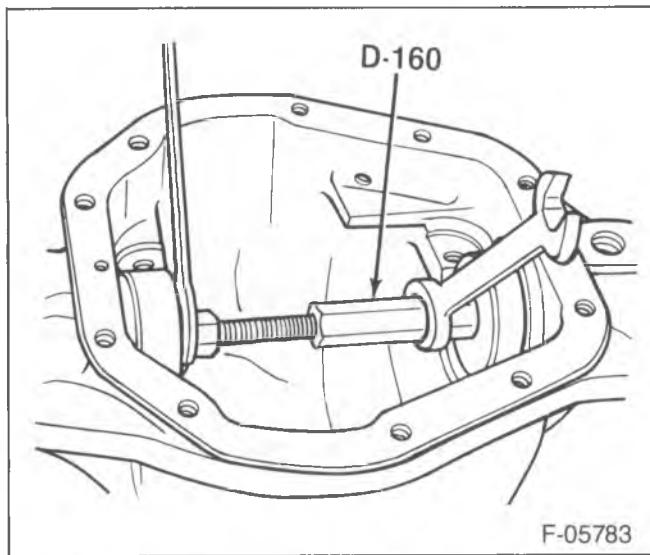
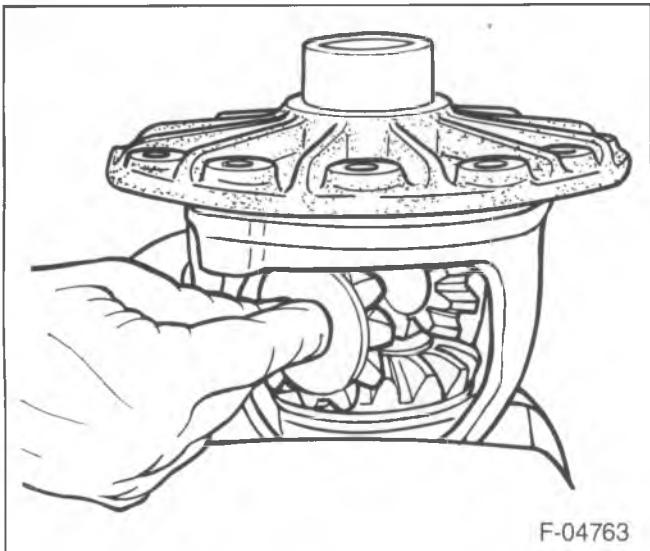

Figure 17—Installing the Axle Shaft Seals
Figure 18—Installing the Pinion Gears
- Axle shaft seals, using D-160 (figure 17).
- New side gear thrust washer (27) to the side gears (25).
- Side gears (25) to the differential case.
- Place the side gears in place on the same side as removed (figure 18).